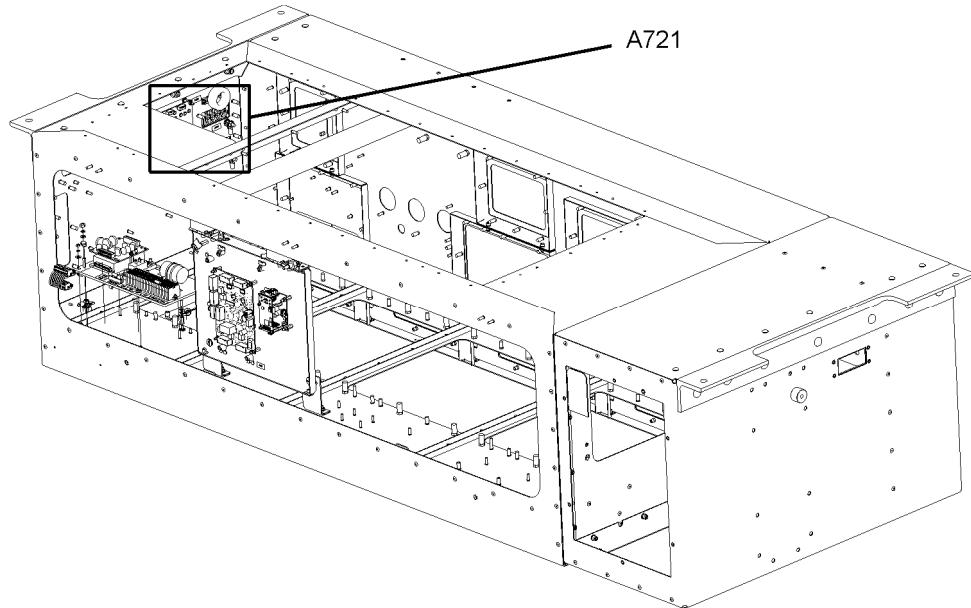

Figure 5-48: Location of A721
3. Locate A721. See Figure 5-48 for the location of the A721.